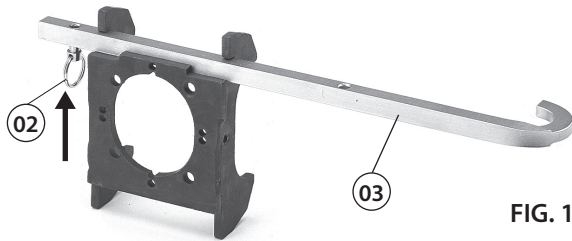

FIG. 13
- 10.1.2) Insert the **SPA...** positioning plate (03) relating to the rail to be drilled in the appropriate housing (see Fig. 13).